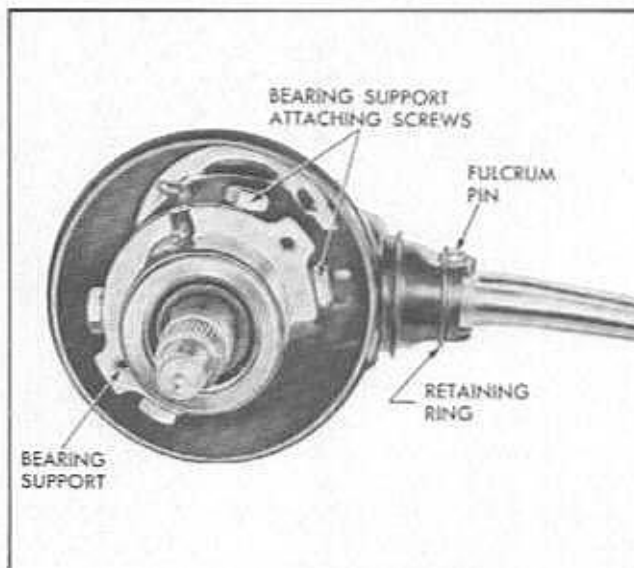

Fig. 7-7 Upper Steering Column
4. Using a $\frac{7}{16}$ " wrench remove four special screws which fasten gearshift lever bearing support to steering column (Fig. 7-7). On Hydra-Matic models friction spring and button will come off with two lower screws.
6. Remove gearshift lever fulcrum pin retaining ring and fulcrum pin (Fig. 7-7) and remove gearshift lever, being careful to catch anti-rattle shims which may be between shift lever and shift lever support. Remove anti-rattle spring from end of gearshift control lever. NOTE: Retainer spring on tube yoke pin